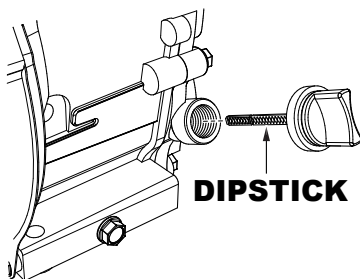

Figure 11. Engine Oil Dipstick (Removal)
2. Remove the filler dipstick from the engine oil filler hole (Figure 11) and wipe it clean.